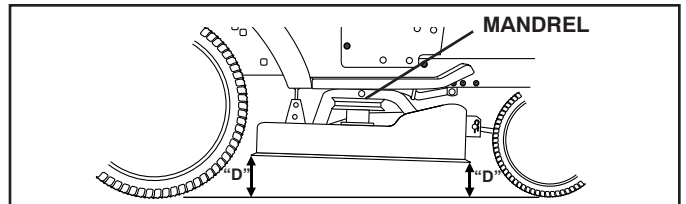

FIG. 15
**FRONT-TO-BACK ADJUSTMENT** (See Figs. 15 and 16)